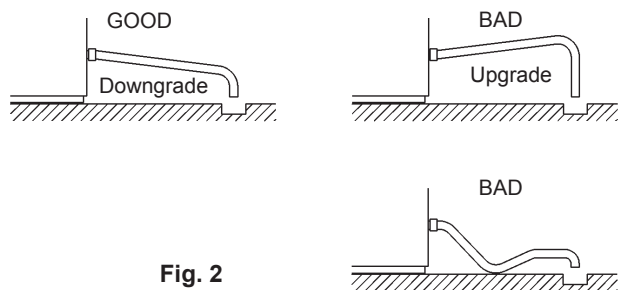

Fig. 2
- * To prevent a backflow into the storage bin, the outlet hose must be laid as shown in Fig. 2.